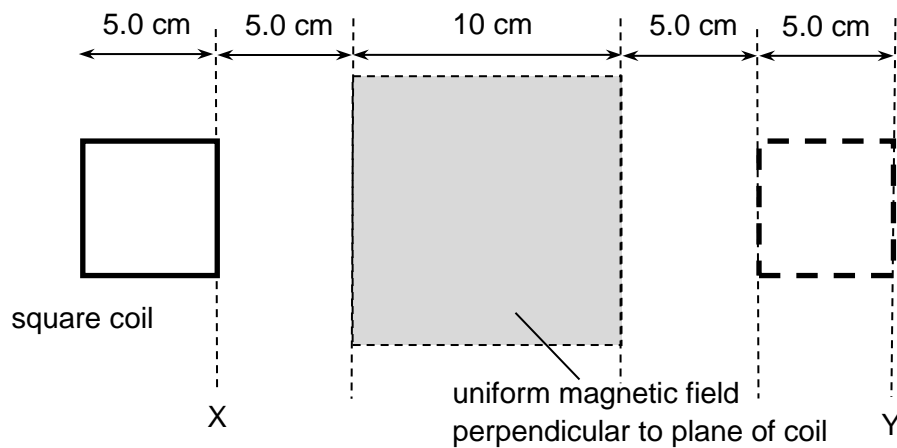

Fig. 5.1 (top view)
- (b) A square copper coil of five turns moves at a constant speed of  $2.5 \text{ cm s}^{-1}$  from initial position X to final position Y as shown in Fig. 5.1. The length of each side of the square coil is  $5.0 \text{ cm}$ . There is a square region of uniform magnetic field,  $B = 2.0 \text{ T}$  placed in between X and Y. The length of each side of the magnetic field is  $10 \text{ cm}$ .